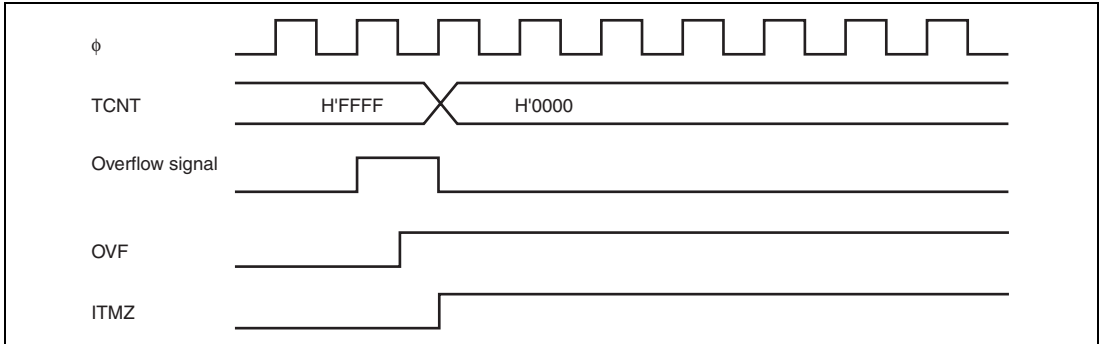

Figure 14.50 OVF Flag Set Timing
3. **Overflow Flag (OVF) Set Timing:** The overflow flag is set to 1 when the TCNT overflows. Figure 14.50 shows the timing.